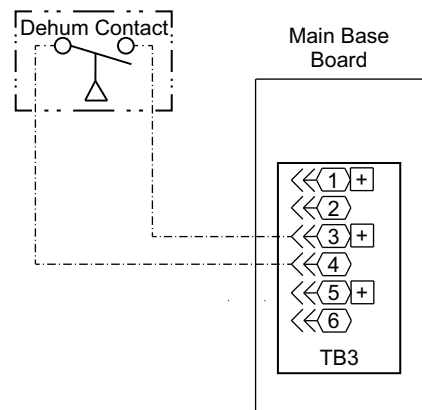

Fig. 55 — Humidistat Connections to MBB (3-Stage SystemVu Units)
5. For 3-Stage SystemVu controller units connect one of the leads from the 2-conductor cable to the TB3 terminal 3 on the MBB (Main Base Board). Connect the other lead to the TB3 terminal 4 on the MBB. See Fig. 55.